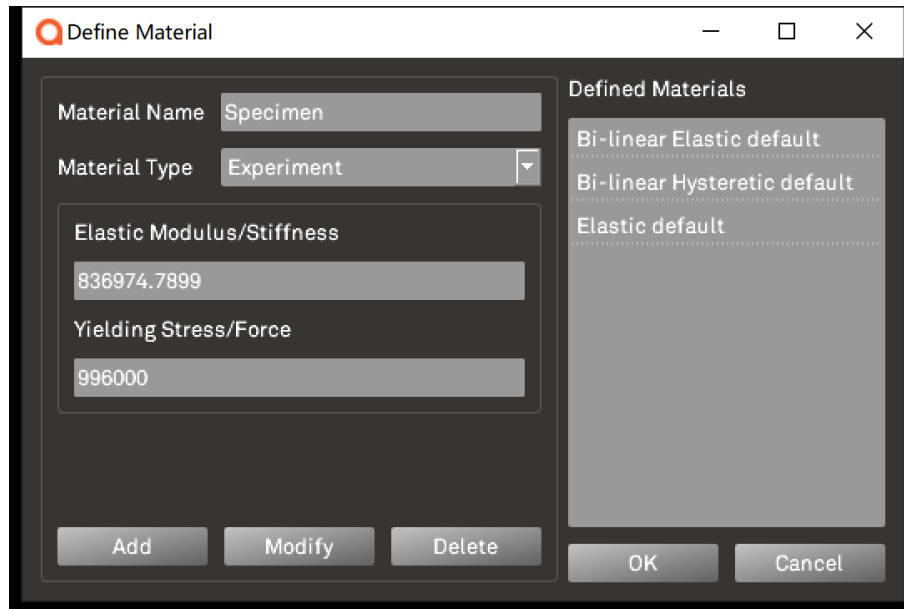

Figure 32 – Define Experiment Material window
Step 1: Click "Define" - Click "Material" - Define material type to Experiment (as shown in Figure 32) – Click "Add"